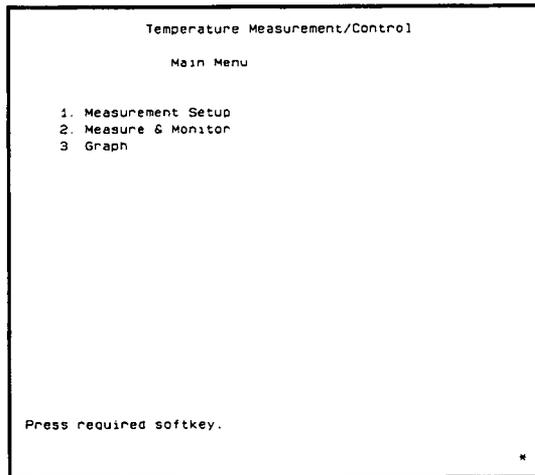

Figure 1-10. Main Menu
6. The Main Menu (shown in Figure 1-10) is displayed.
① Measurement Setup
2. The Menu (shown in Figure 1-10) is displayed.